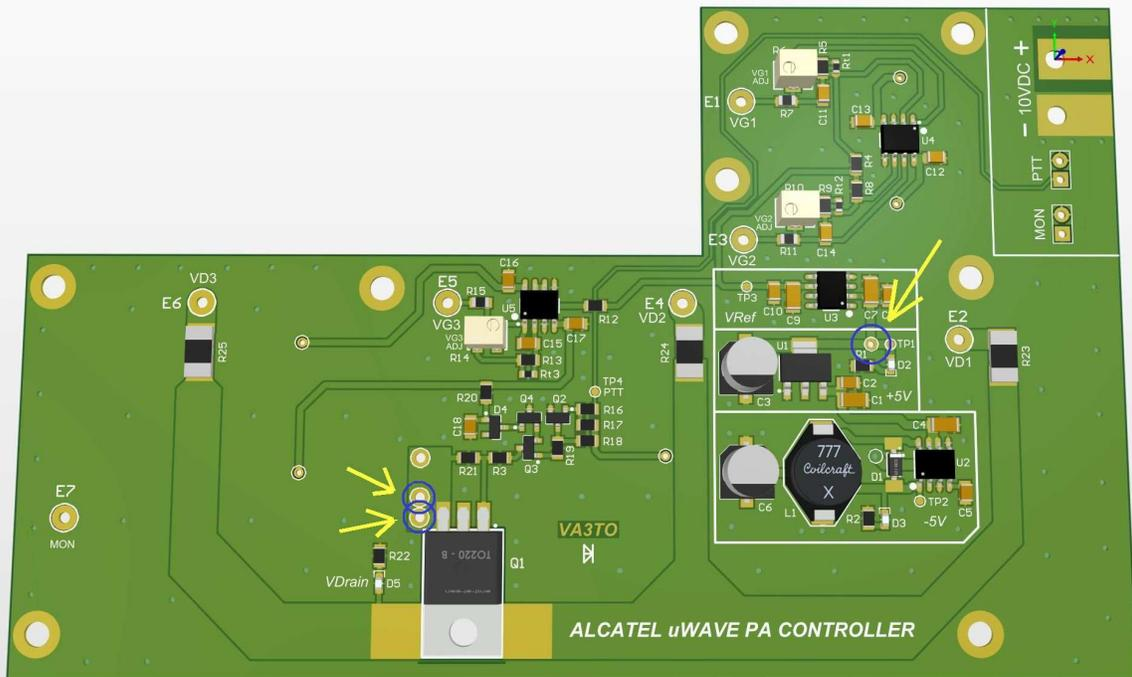

FIGURE 1-1
1. During the board design most of the non-ground vias were strategically placed over existing holes in the 3DH04136 PA block except for the 3 shown in Figure 1-1. These require dimpling the aluminum block with the tip of a drill to prevent the via from shorting to ground. Place the board against the PA block and use a pin to scribe the location of the holes through the vias on the board.